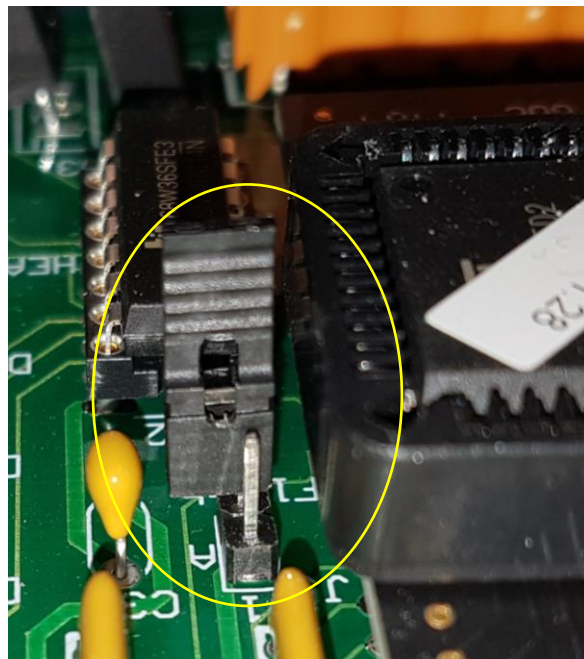

Figure 17 - Jumper in non-flashing position
- 7) Power off the AE100/1 EUI Control Unit, remove and replace jumper into a non-flash position, Figure 17, so the pins are no longer shorted. Power the AE100/1 EUI Control Unit. A heartbeat should be seen on LED24. This ends the process of flashing the SCV PCB in the AE100/1 EUI Control Unit.